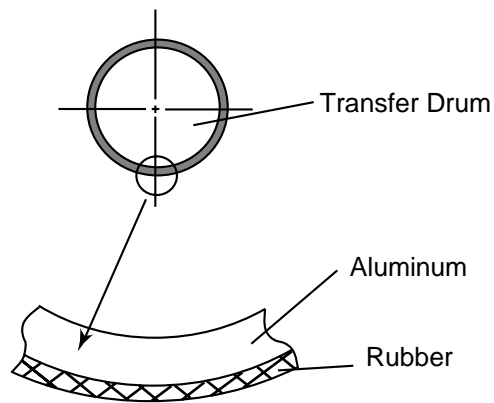

Fig.4-17
- iii) Semiconductor rubber is used to provide the drum surface as shown in Fig.4-17.